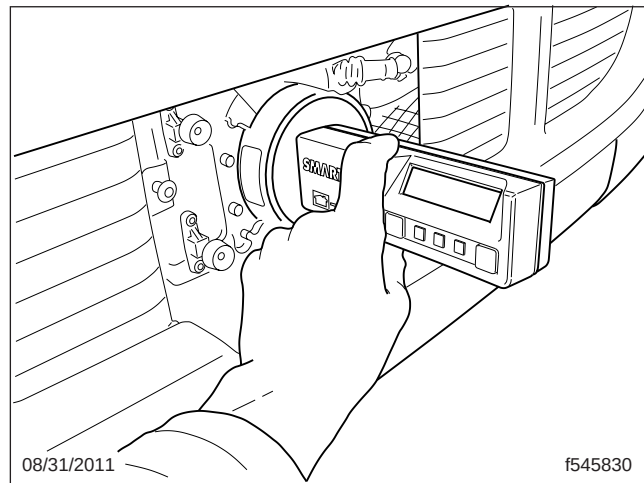

Fig. 4, Digital Level Positioned on the Radar Antenna
- 6.2 Position the digital level on the outside metal surface of the radar antenna. See **Fig. 4**.